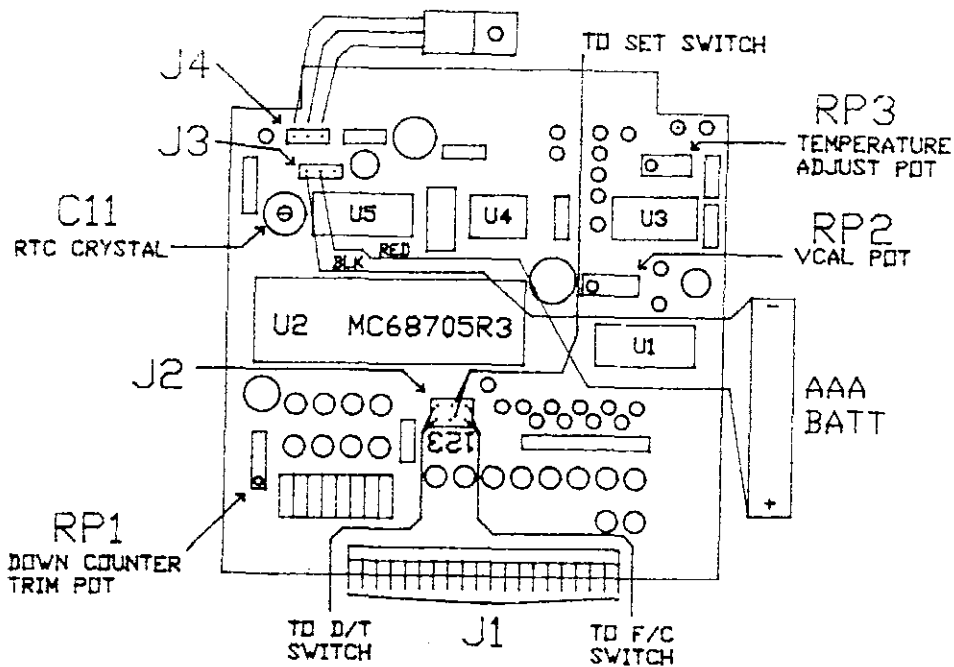

Figure 3.3
- 8 Connect the D/T cable to J2-3 and the F/C cable to J2-1 (Figure 3.3).
Before installing the top back on the AUTOCLOCK chassis insert a AAA battery into the battery holder on the right of the chassis (Figure 3.3) with the positive end towards the display assembly and review sections 3.2 and 3.3.